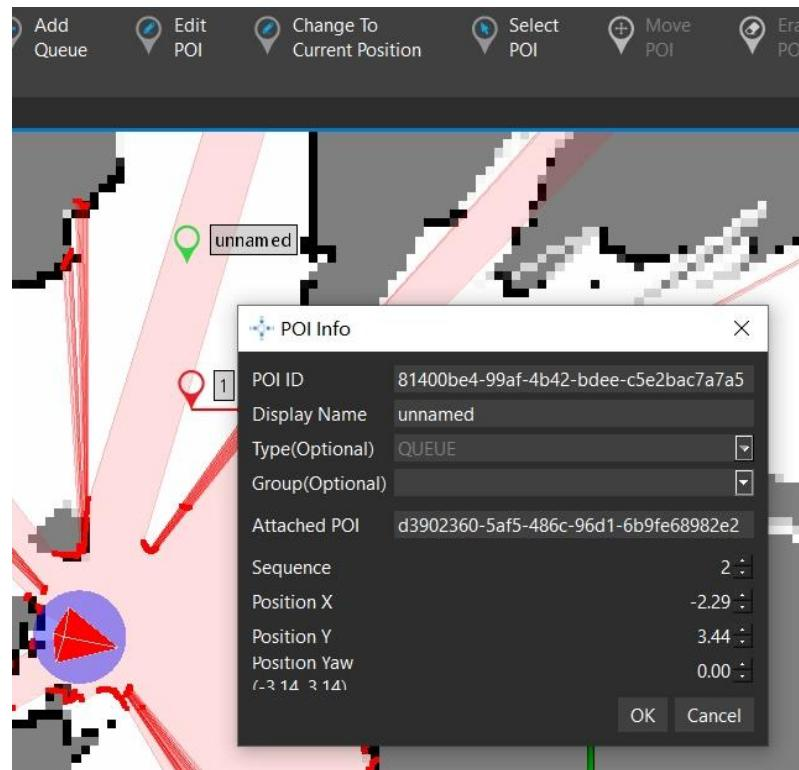

Figure 2.8.6 Adding Queue Point
- Click **Add Queue** in the toolbar. On the map, left-click the position where you want to add the queue point and the **POI Info** dialog box will appear (as shown in Figure 2.8.6).